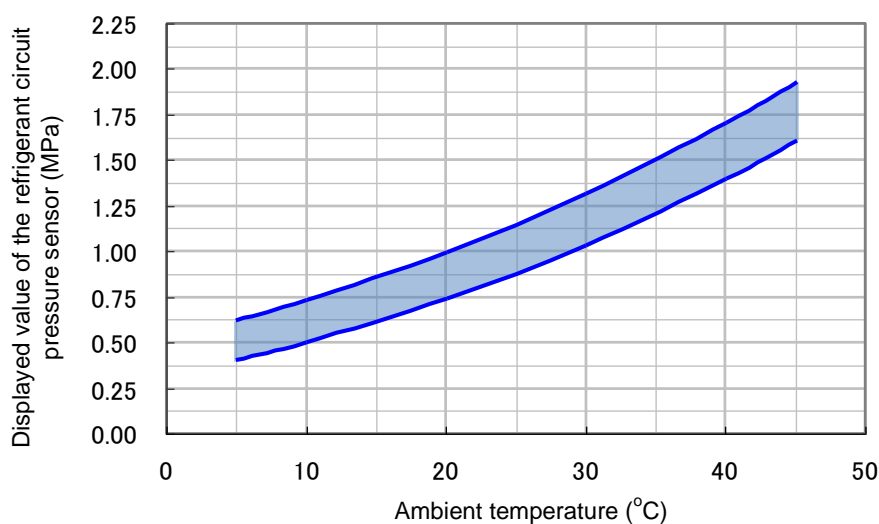

Fig. 3.3-59 Ambient temperature and refrigerant circuit pressure
- (1) Leave the Thermo-Chiller not operating for 24 hours to make the ambient temperature and the temperature inside the Thermo-Chiller the same.
- (2) Check the ambient temperature.
- (3) Check "PL: Refrigerant circuit pressure on the low pressure side" value in the "Check Monitor Menu".
- (4) Check if the value at the cross point of the ambient temperature and the "PL: Refrigerant circuit pressure on the low pressure side" value is within the range (the shaded part) in Fig. 3.3-59. If the cross point is within the range, it means that the pressure sensor is operating correctly.